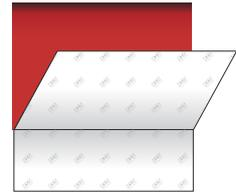

Figure 05
- › Remove the top hinge and continue removing the liner, depending on the surface structure (cf. paragraphs below). (FIG. 05)